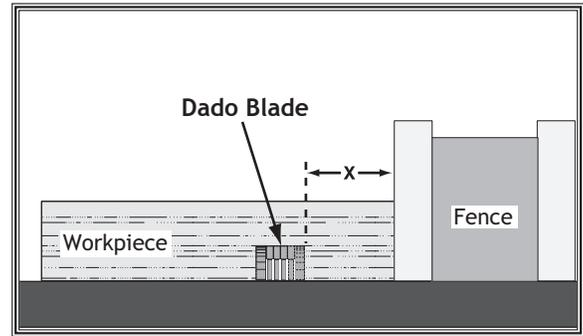

Figure 66. Example of a dado being cut with a dado blade.
Commonly used in furniture joinery, a dado is a straight channel cut in the face of the workpiece. Dadoes are "non-through" cuts that can be made with a dado blade or a standard saw blade. **Figure 66** shows a cutaway view of a dado cut being made with a dado blade.
3. Adjust distance between fence and inside edge of blade, as shown in Figure 66 on Page 45, to dado length of a workpiece.